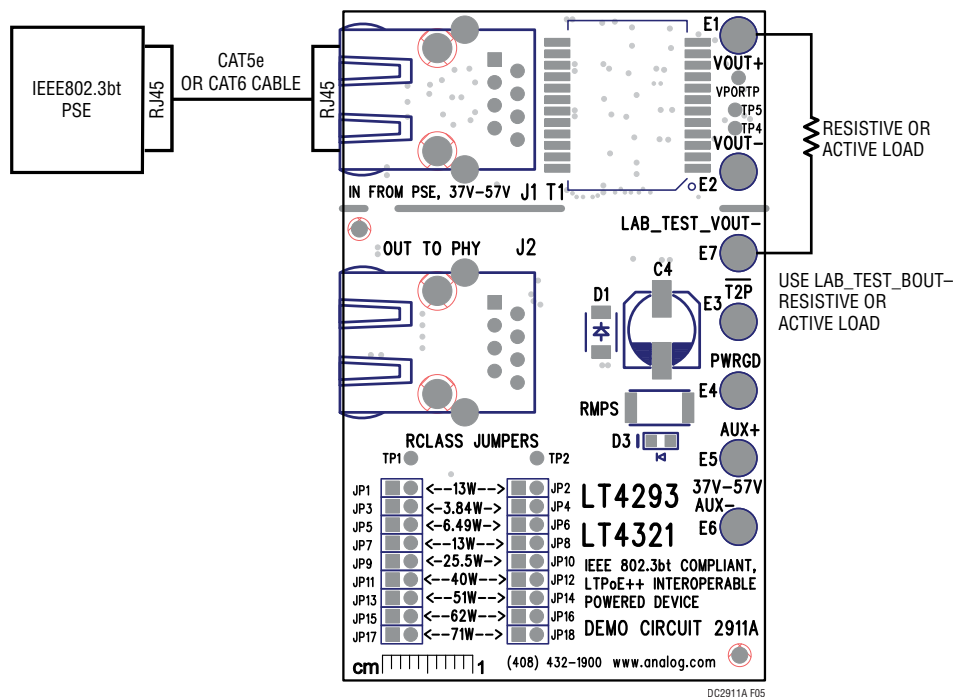

Figure 5. Setup Diagram for DC2911A with a Resistive or an Active Load. Do Not Capacitively Load LAB_TEST_VOUT-
2. Refer to Figure 3 or Figure 4 to evaluate the DC2911A with a DC/DC converter. If a resistive or an active load is used to evaluate the DC2911A, use the setup diagram as shown in Figure 5.